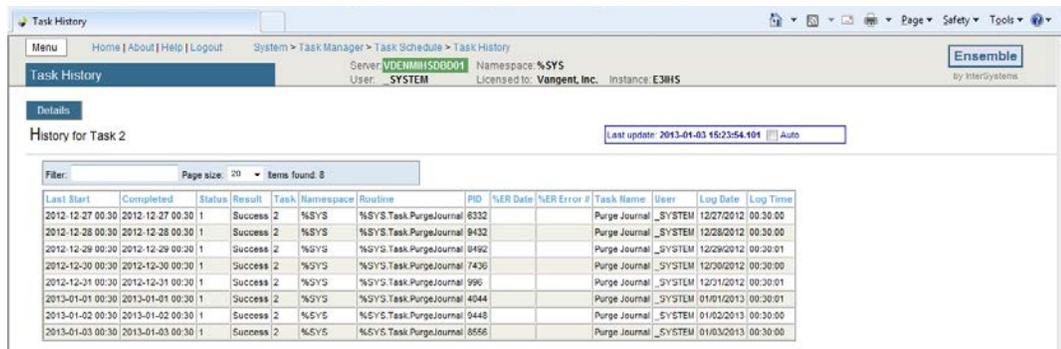

Figure C-12: **Task History** page
- **History.** Displays the **Task History** page for the selected task, as shown in Figure C-12.